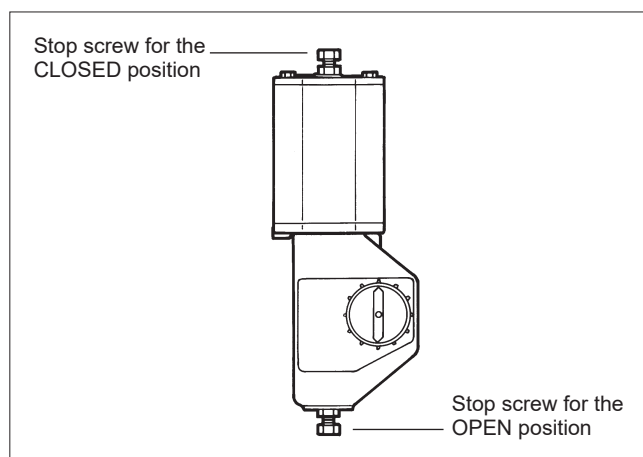

Fig. 25 Open and closed positions of a B1 actuator
- Adjust the segment open and closed positions (limits to piston movement) by means of the actuator stop screws, see Fig. 25. The correct opening angle is 90°. The accurate position can be seen in the flow port. Check that the yellow arrow indicates the position of the segment. **Keep your fingers out of the flow port!**